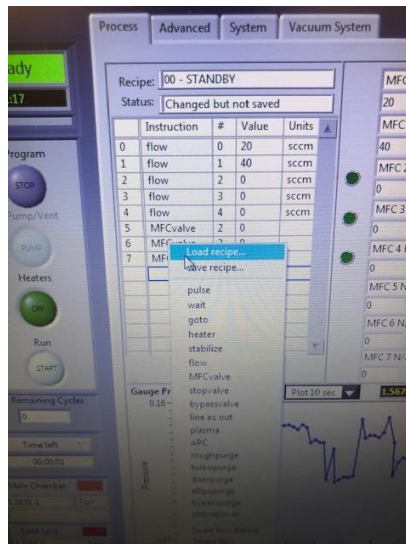

Figure 7: Right click in recipe area to access drop down menu
- 9.6.2. Right click in the white field, and select “load recipe”. **Figure 7.**